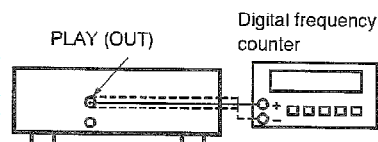

Fig. 7
2. Connect the measuring instruments as shown in Fig. 7.